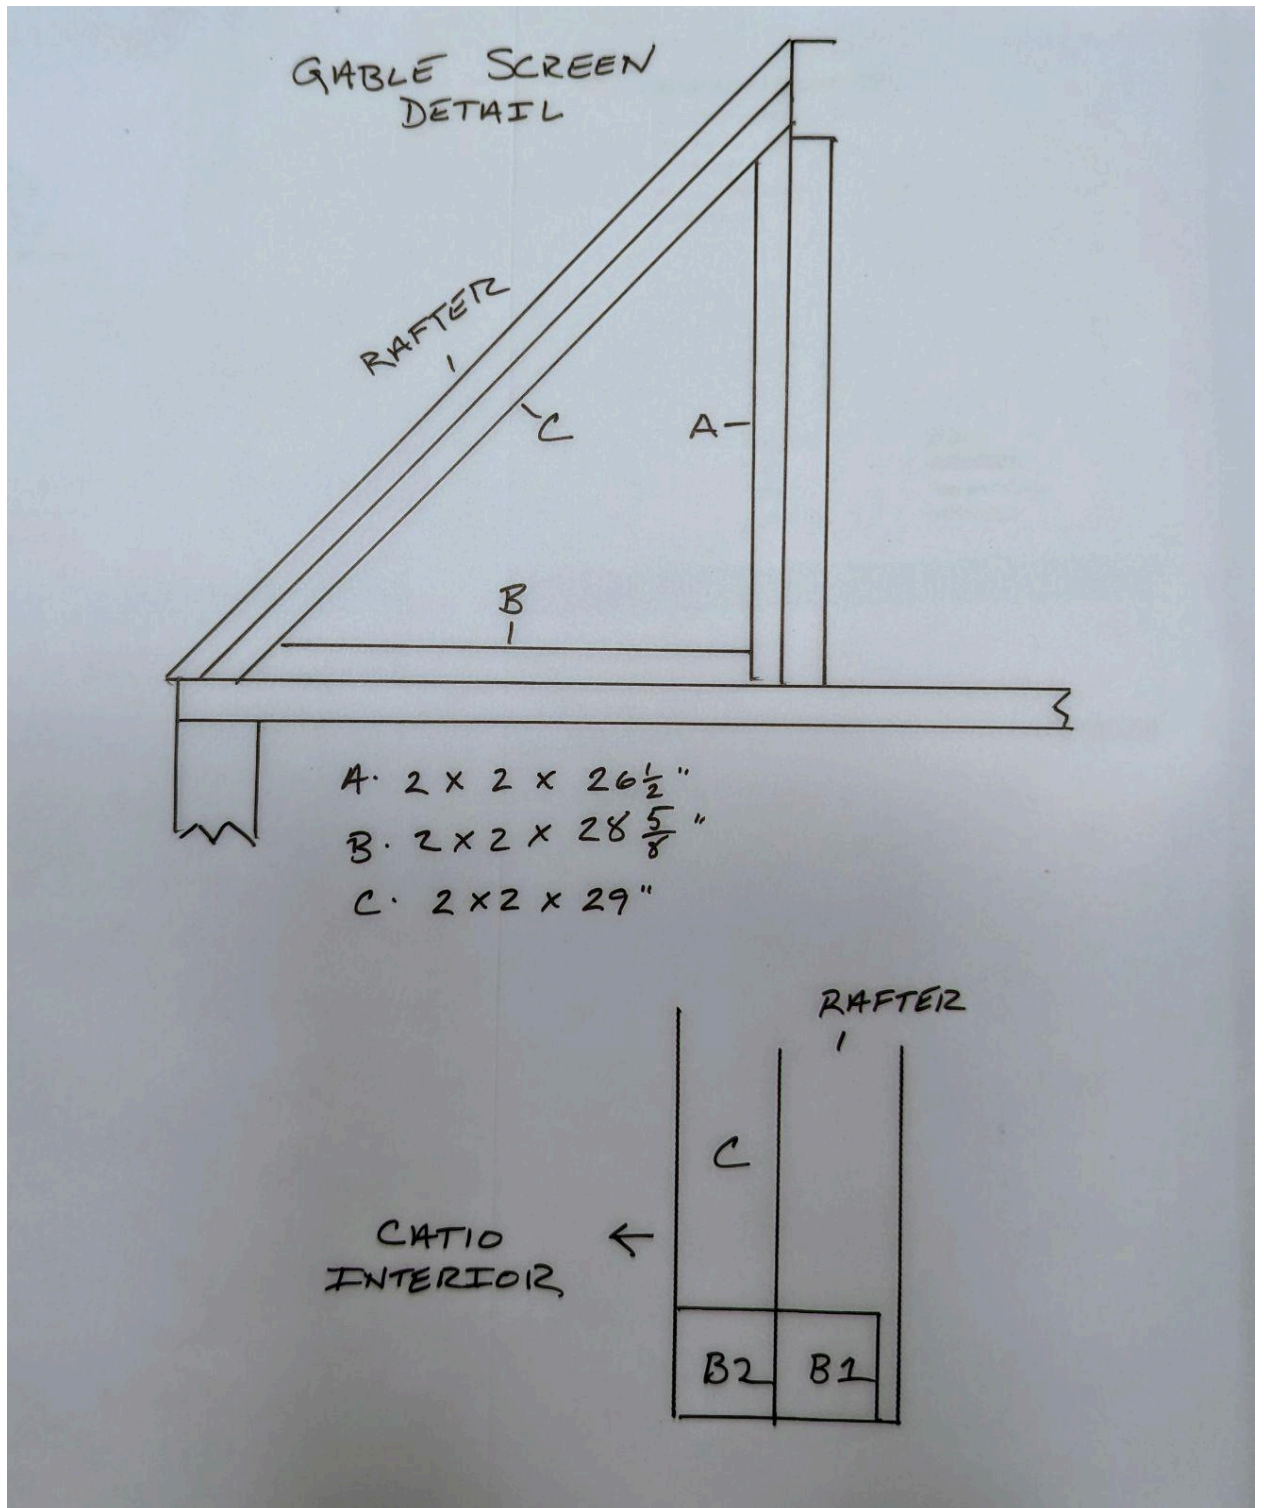

Figure 8
- The screen sections in the gable end are very similar to those in the wall section - the hardware cloth will be pinched between the "frame" made of 2 x 2 lumber. In this case, though, the rafter will act as the outer frame along the hypotenuse edge of the right triangle opening. See Figure 8.
- When assembling these screen sections, pieces A & B will be aligned with the interior edge of the rafter and fastened to the post and top plate with 2" deck screws. Cut the hardware cloth to cover the opening and then fasten pieces A, B, and C to their mates as seen in Figure 8.